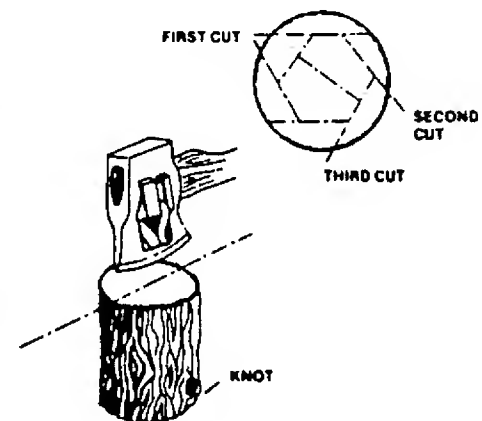

Figure 17 Wood
3. Wood Chopping Mauls (Figure 17) have become popular with the second onset of wood burning stoves. The wood chopper's maul is a wedge shaped cutting tool having a narrower, thicker and heavier head than an axe and usually weighs from 6 to 8 pounds. It has a straight handle. This type of maul is used to split logs